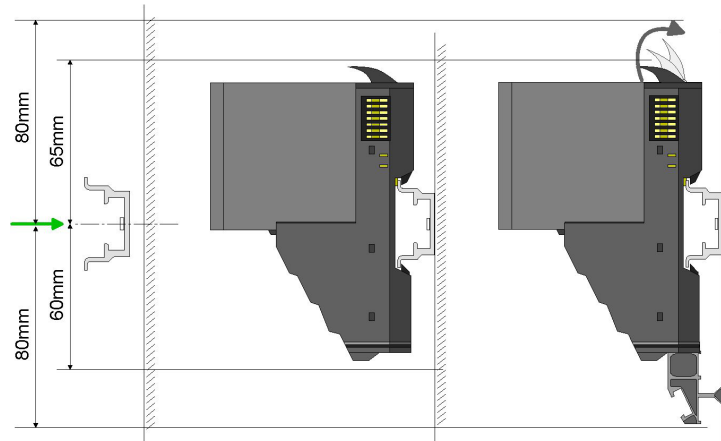

Fig. 5-5: Installation distances
- ➔ Install the DIN rail with the necessary distances (see Fig. 5-5: "Installation distances").